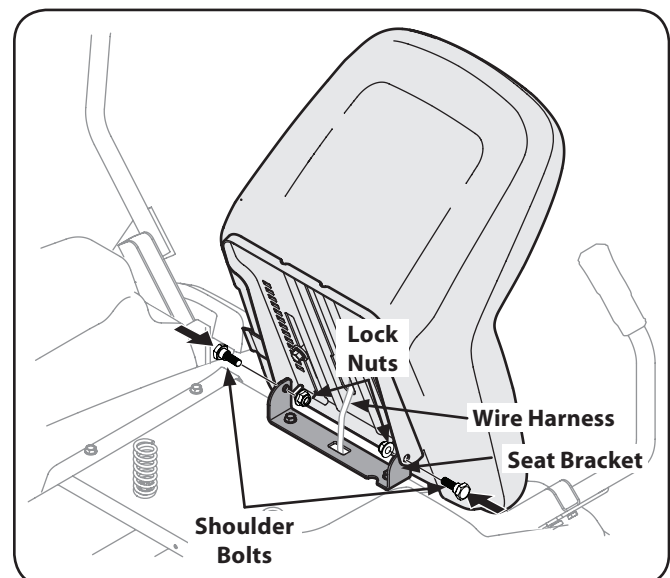

Figure 3-3
3. Rotate the seat into position and secure the seat into place with the previously removed shoulder bolts and lock nuts. Be careful not to crimp or damage the wire harness while installing the seat. See Fig. 3-3.